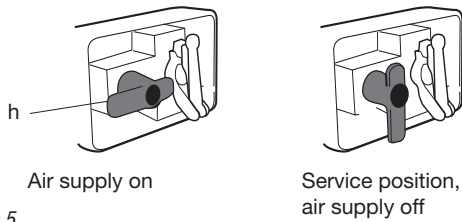

Figure 5
- Turn the handle on the control box to service position according to figure 5.